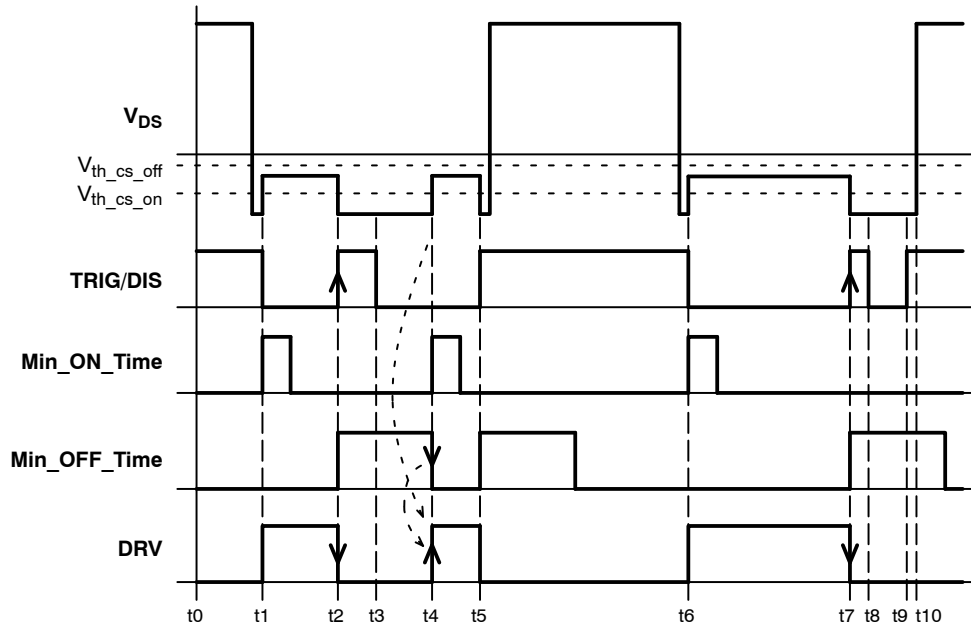

Figure 59. IC Behavior when Multiple Trigger Pulses Appear on TRIG/DIS Input
Figure 59 shows IC behavior in case the trigger signal features two pulses during one cycle of the V_{DS} (CS) signal. TRIG/DIS enables driver at time t1 and DRV turns ON because the V_{DS} voltage is under $V_{th_cs_on}$ threshold voltage. The trigger signal and consequently DRV output fall down in time t2. The minimum OFF time generator is triggered in time t2. TRIG/DIS drops down to LOW level in time t3 but there is still minimum OFF time sequence present so the DRV output stays low. When the minimum OFF time